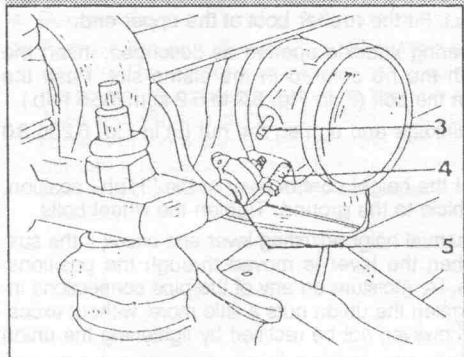

Fig. 6.6. — Details for the removal and installation of a front height corrector.
return pipe (3) and the rubber exhaust pipe (5) in Fig. 6.6 to the corrector. Tighten the hose clip of the latter. Start the thread of the union nuts of pipes (4) and (1), using new seals, and tighten the nuts as far as possible.